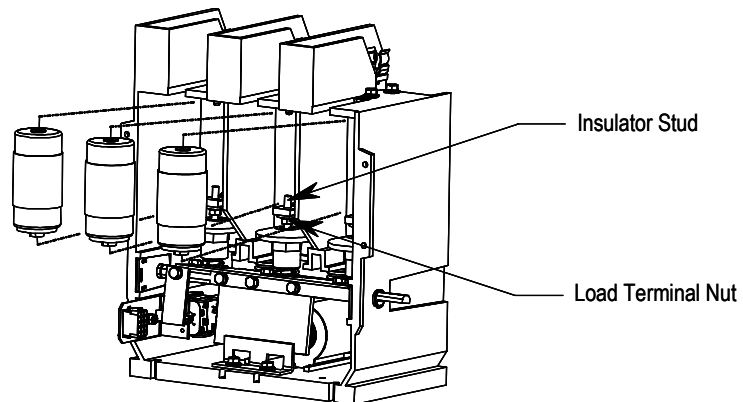

Figure 4.5 – Removal of Vacuum Bottles
4. Loosen the load terminal nut on one bottle assembly, tilt the bottle forward (out of the contactor) and unscrew it from the insulator stud as shown in Figure 4.5. Repeat this for the two remaining bottles. The load terminals, insulators and overtravel spring assemblies remain in the contactor as shown in Figure 4.5.